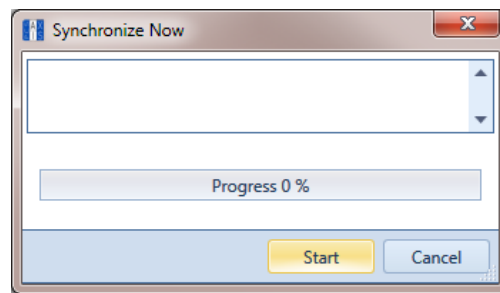

Figure 16-16. Synchronize Now
- 1 Synchronize data between the subscription and publication databases. Click **Tools** > **Synchronize Now** (Figure 16-16).